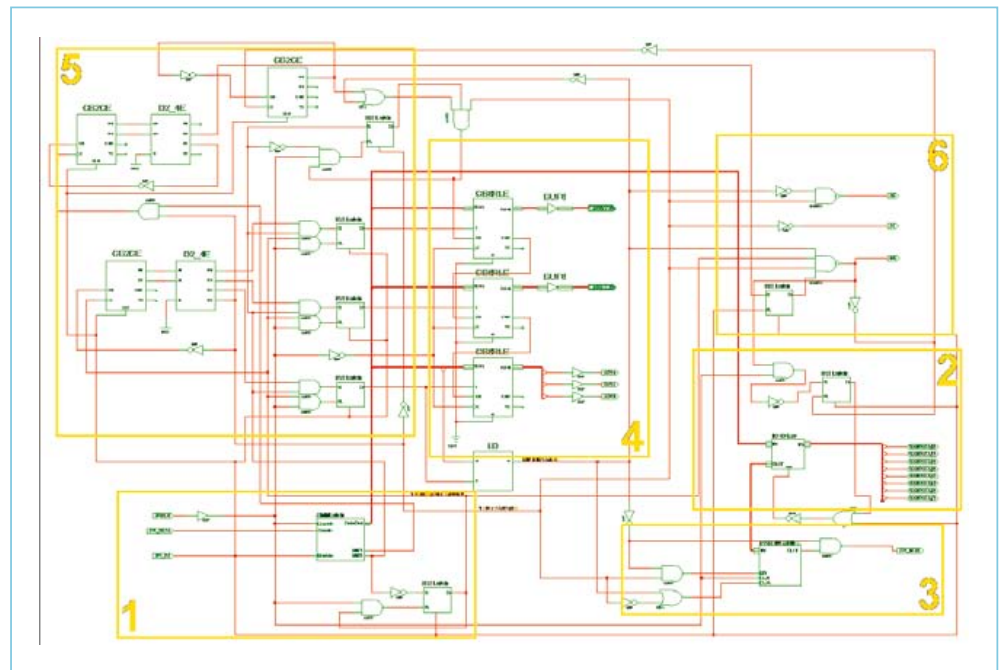

Figure 3. Details of the CPLD logic used in RAMBO-S.
The firmware design files developed by the author are available for downloading from the article support page on the Elektor website [1]. These files should enable you to burn your own CPLD for the project, as well as get an understanding of what's going on in the device. Commercial use of the firmware files is not allowed. Referring to the labeled areas in the diagram in **Figure 3** the main parts of the firmware are (1) the SPI and input shift register, (2) the data input/output driver, (3) the output shift register, (4) the address counter phalanx, (5) the counter control logic and (6) the SRAM control logic.